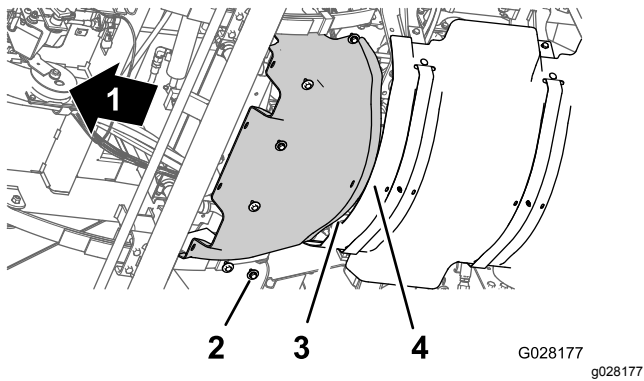

Figure 58
1. Align the rear flange of the forward heat shield over the forward flange of the rear heat shield (Figure 58).
2. Align the holes in the forward heat shield with the threaded holes in the chassis (Figure 58).
3. Assemble the forward heat shield to the machine with the 6 hex-head bolts and 6 washers (Figure 58) that you removed in step 3 of Removing the Forward Heat Shield \(page 48\).